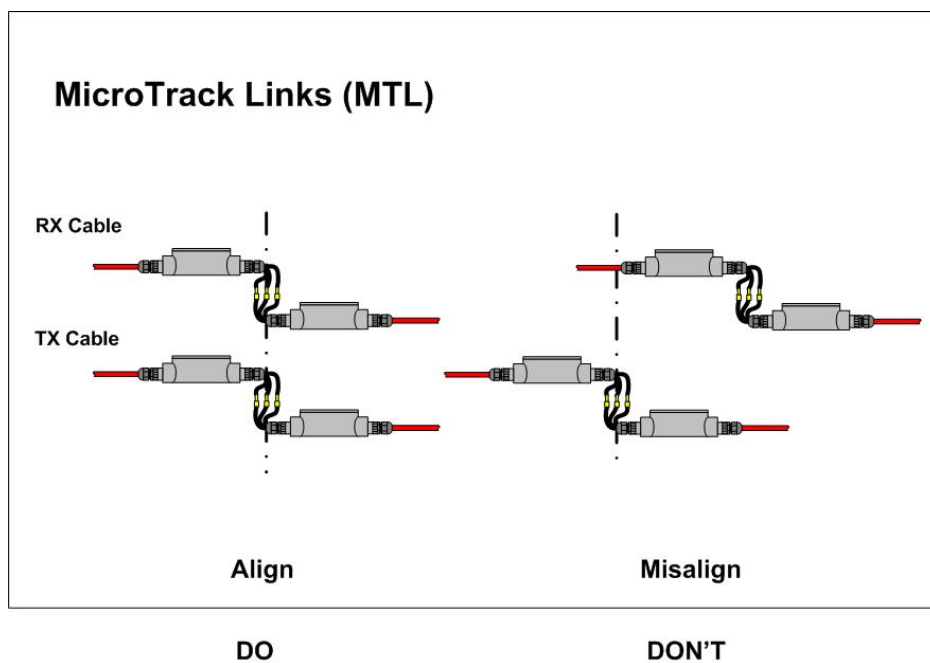

Figure 5.14 MicroTrack Links and Terminations Must Be Aligned
1. Position the MTL for the A2 sensor cable assembly so that the left end is aligned with or slightly overlaps the MTL from the B1 sensor cable assembly, as shown below in Figure 5.14.